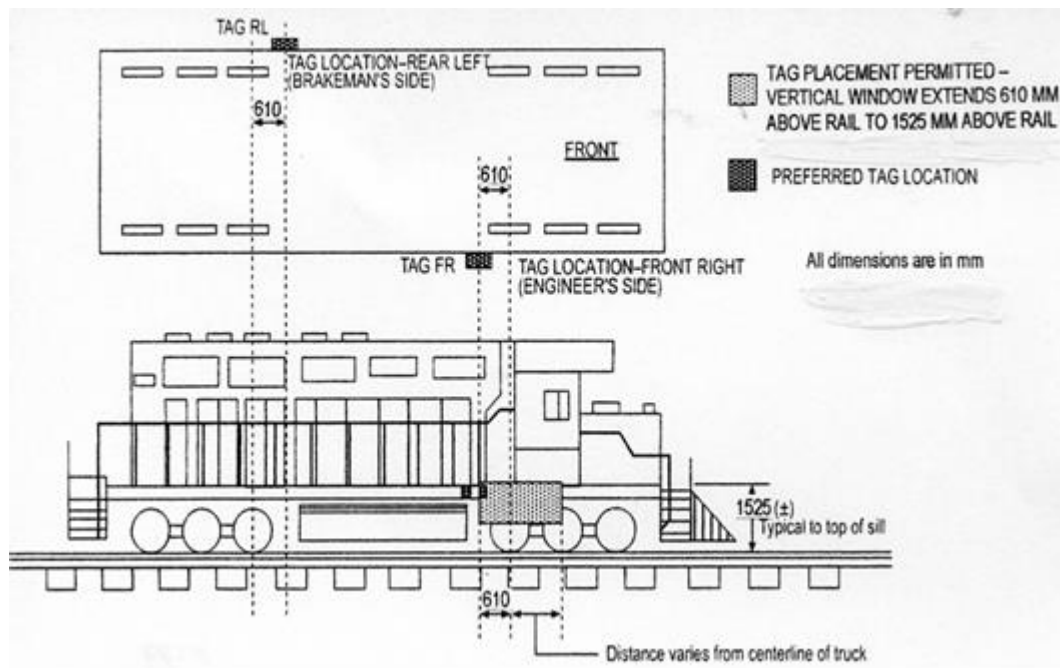

Figure 4 - Location of AEI tags – Six axle locomotive
- Figure 4 Two axle vehicles (AAR S-918 Exhibit A)